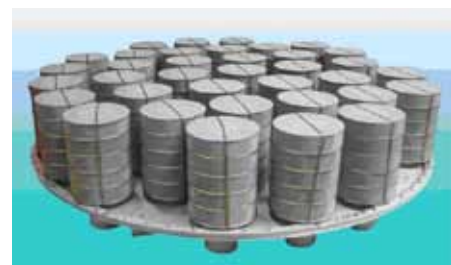

Figure 7: Sulzer MKS Multi Cassette
When a high capacity and high separation efficiency is required, SMS (M) technology is the lowest weight and volume solution for phase separation offshore and onshore. It gives up to 2.5 times more capacity compared to a conventional KnitMesh mist eliminator without vessel replacement. Shell SMS, SMSM and SMMSM gas/liquid separators (Figure 7) are named after the configuration of the different internals used for each type of separator:
- Schoepentoeter or Schoepentoeter Plus (S) - used as feed inlet device for vapour distribution with bulk liquid removal
- KnitMesh (M) - which acts as coalescer and separator, depending on the gas flow rate
- Double Primary KnitMesh (MM) - specially developed for applications with two immiscible liquid phases in the feed to the separators (such as glycol/condensate in Dew-Point Separators)
- Swirldeck (S) - comprising multiple Swirltubes.
- A second KnitMesh (M) is used downstream of the Swirldeck in SMSM gas/liquid separators for demisting secondary gas. In fouling or waxy service, the KnitMesh can be replaced by a Sulzer Mellachevron vane pack (SVS systems). ■